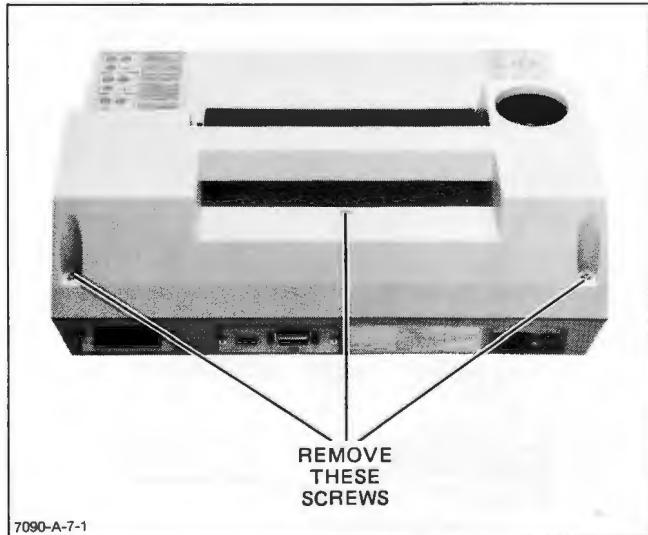

Figure 5-2. Top Cover Removal
- a. Set the HP 7090 LINE switch to OFF (O) and disconnect the line cord.
- b. Remove the HP 7090 top cover by removing the screws indicated in Figure 5-2.